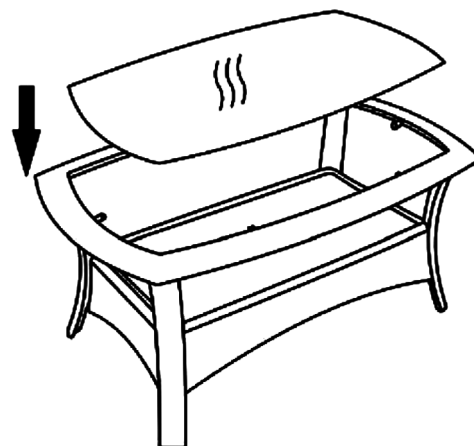

Figure 7
Step 8. Check the alignment and adjust if necessary. Once the alignment is correct, tighten all bolts with open wrench(I). Cover all bolts with bolt caps (H).
Step 10. Place the glass top on the table rim (See Figure7). Your table is now ready to use.